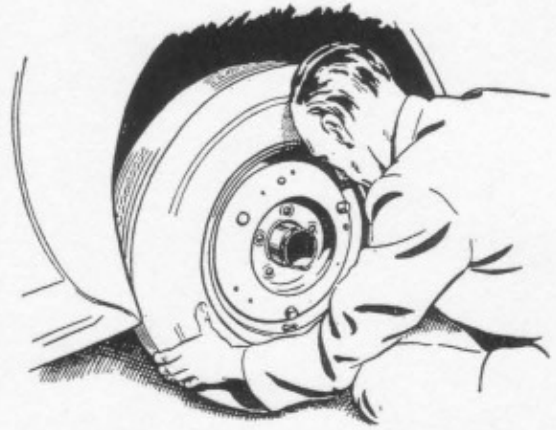

Fig. 27.—POSITIONING REAR WHEEL.
3. Using the one entered stud as a fulcrum, raise the wheel until the other studs enter their respective holes. (See Fig. 27.)